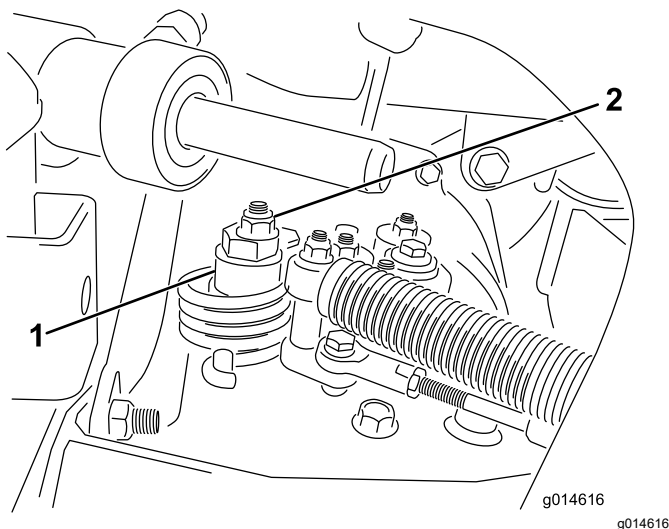

Figure 38
- A. Loosen the nut securing the eccentric to the top of the hydrostat (Figure 38).
- C. Rotate the eccentric until creep does not occur in either direction. When the wheel stops rotating, tighten the nut locking the eccentric and the adjustment (Figure 38). Verify the adjustment with the throttle in the SLOW and FAST position.